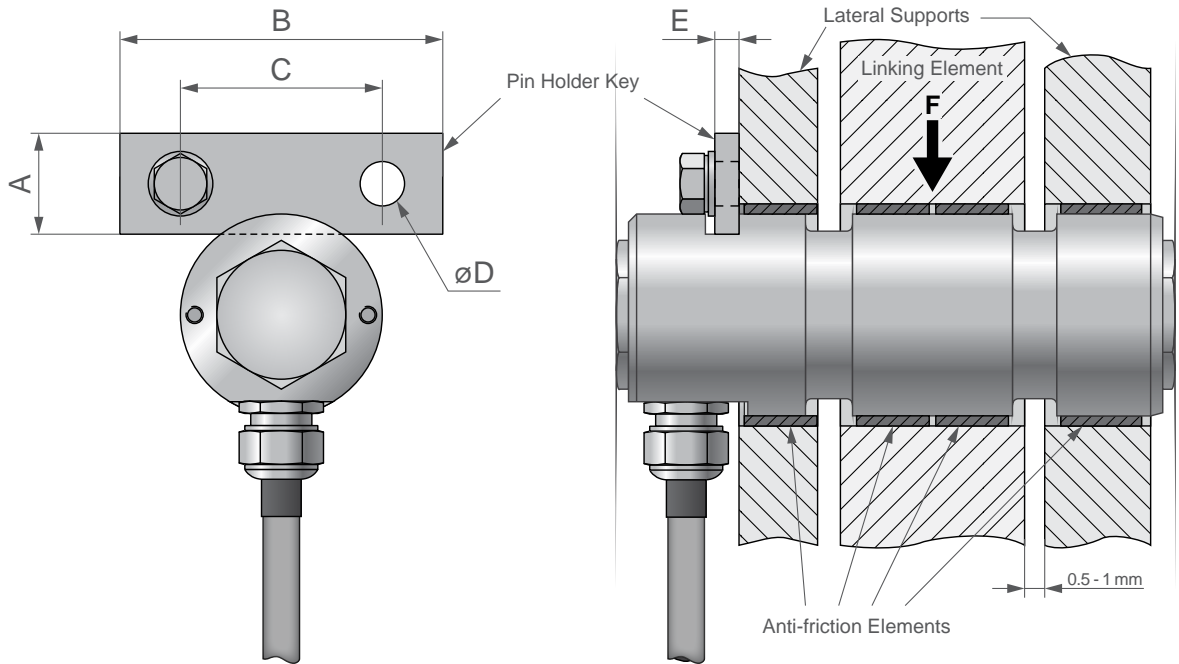

Fig.2-2 Instalation of the pin holder key
1. Machine the pin holder key to the dimensions given (see Fig.2-2). Bore and thread the fastening screw holes according to the specified dimensions (respect both bore and thread depth). The mortise on the load measuring pin is by 0.5 mm wider than the pin holder key. Thus no strain can be transmitted through the key to the pin itself.